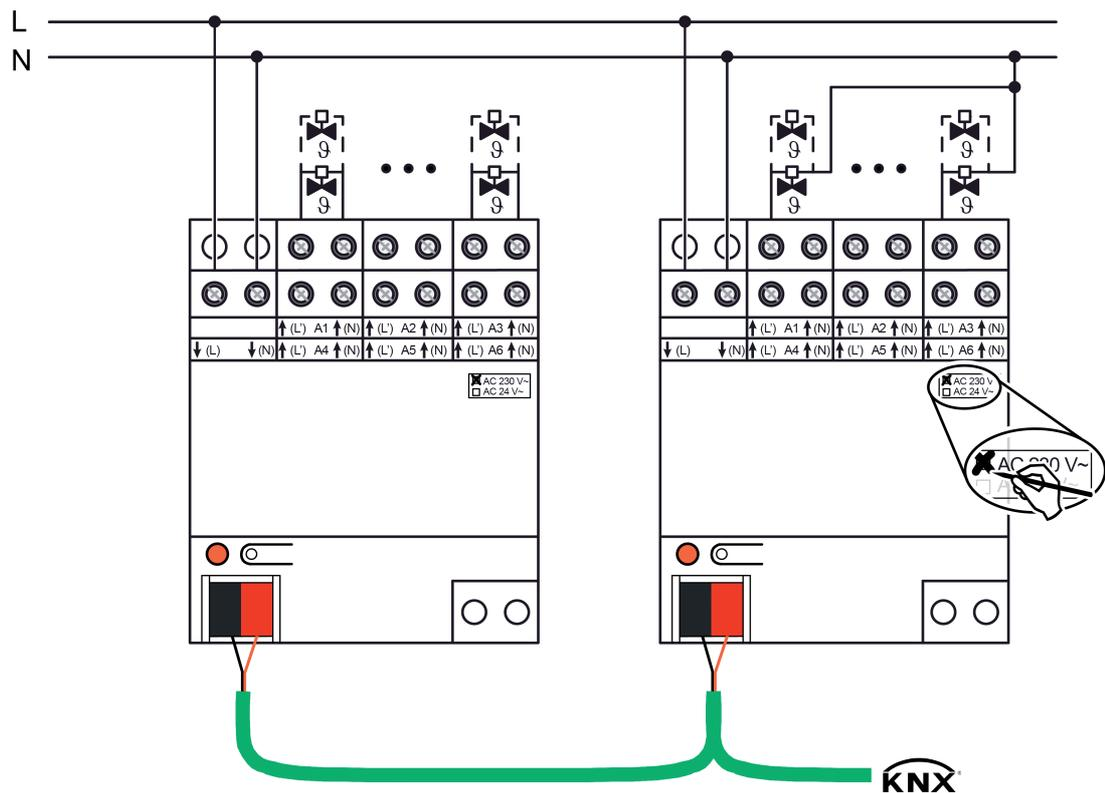

Figure 2: Connection for AC 230 V actuators (connection examples)
- Connect the AC 230 V valve drives according to the connection diagram (figure 2). The neutral conductors of the actuators can either be connected directly to the N terminals of the outputs of the heating actuator (left-hand connection example) or, alternatively, jointly with a suitable N potential (e.g. N conductor terminal in the distributor) (right-hand connection example). It is not absolutely necessary to connect the neutral conductor of the actuators directly to the actuator.
- Connect the supply (mains voltage AC 230 V) for the actuators to the terminals ↓(L) and ↓(N) (1).